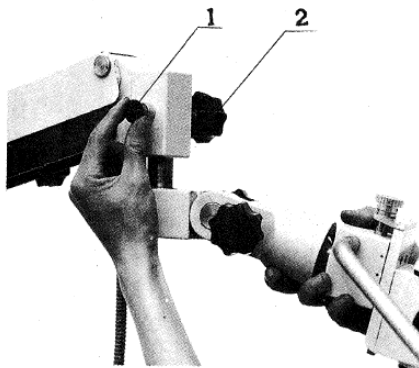
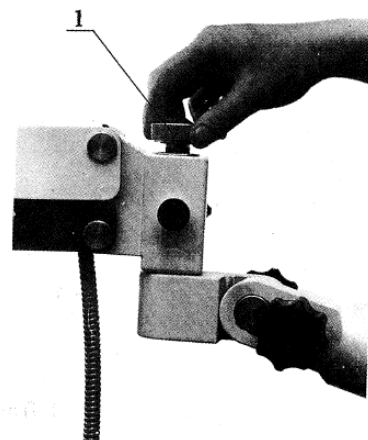

Fig4
Fig5
- (2) Switch off the suspension screw (Fig.5-1). Pull out the locking pin (Fig.4-1) with one hand, and hold the microscope connection (refer to Fig.4) with another hand. Insert the axis into the hole of arm from the bottom up. Loosen the locking pin, it will spring back to fit in the groove. Finally, fasten the suspension screw (refer to Fig.5)